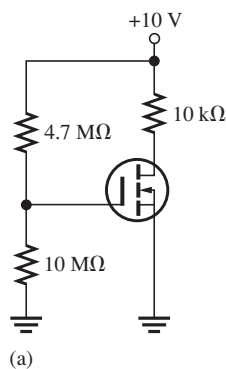

FIGURE 4-81
21. Each E-MOSFET in Figure 4-81 has a $V_{GS(th)}$ of +5 V or -5 V, depending on whether it is an *n*-channel or a *p*-channel device. Determine whether each MOSFET is on or off.